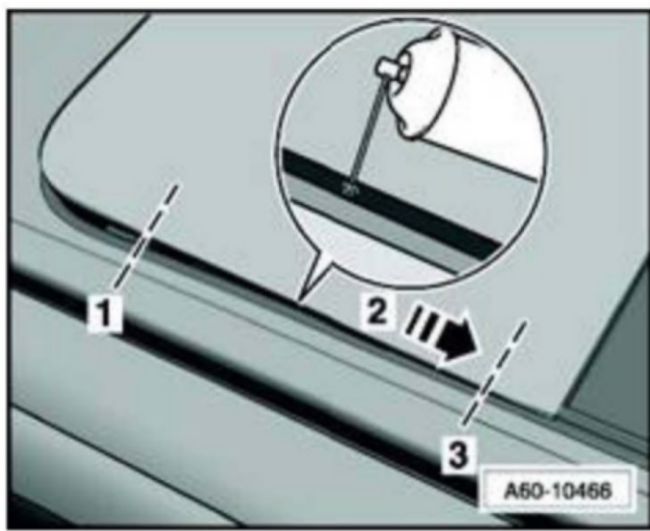

Figure 28. Lubricating guide plate on Audi Q7.
4. Spray lubricant G 060 751 A3 along the mechanism of the rear sunroof panel (Audi Q7) as shown in Figure 28.